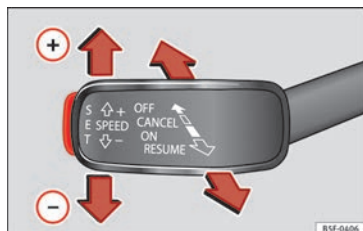

Fig. 48 On the left of the steering column: third lever to operate the CCS.
- Switching on the CCS: move the third lever to **ON** » **Fig. 48**. The system switches on but it does not control the speed as no speed has been programmed.
- Activating the CCS: press the **SET** » **Fig. 48** button. It memorises and maintains the current speed.
- Temporarily switching off the CCS: move the lever to **CANCEL** » **Fig. 48** and release it or press the brake pedal. The cruise control system is switched off temporarily.
- Reactivating the CCS: move the lever to **RESUME** » **Fig. 48** and release it. The memorised speed is saved and controlled again.
- Switching off the CCS: move the third lever to position **OFF** » **Fig. 48**. The system is disconnected and the memorised speed is deleted.